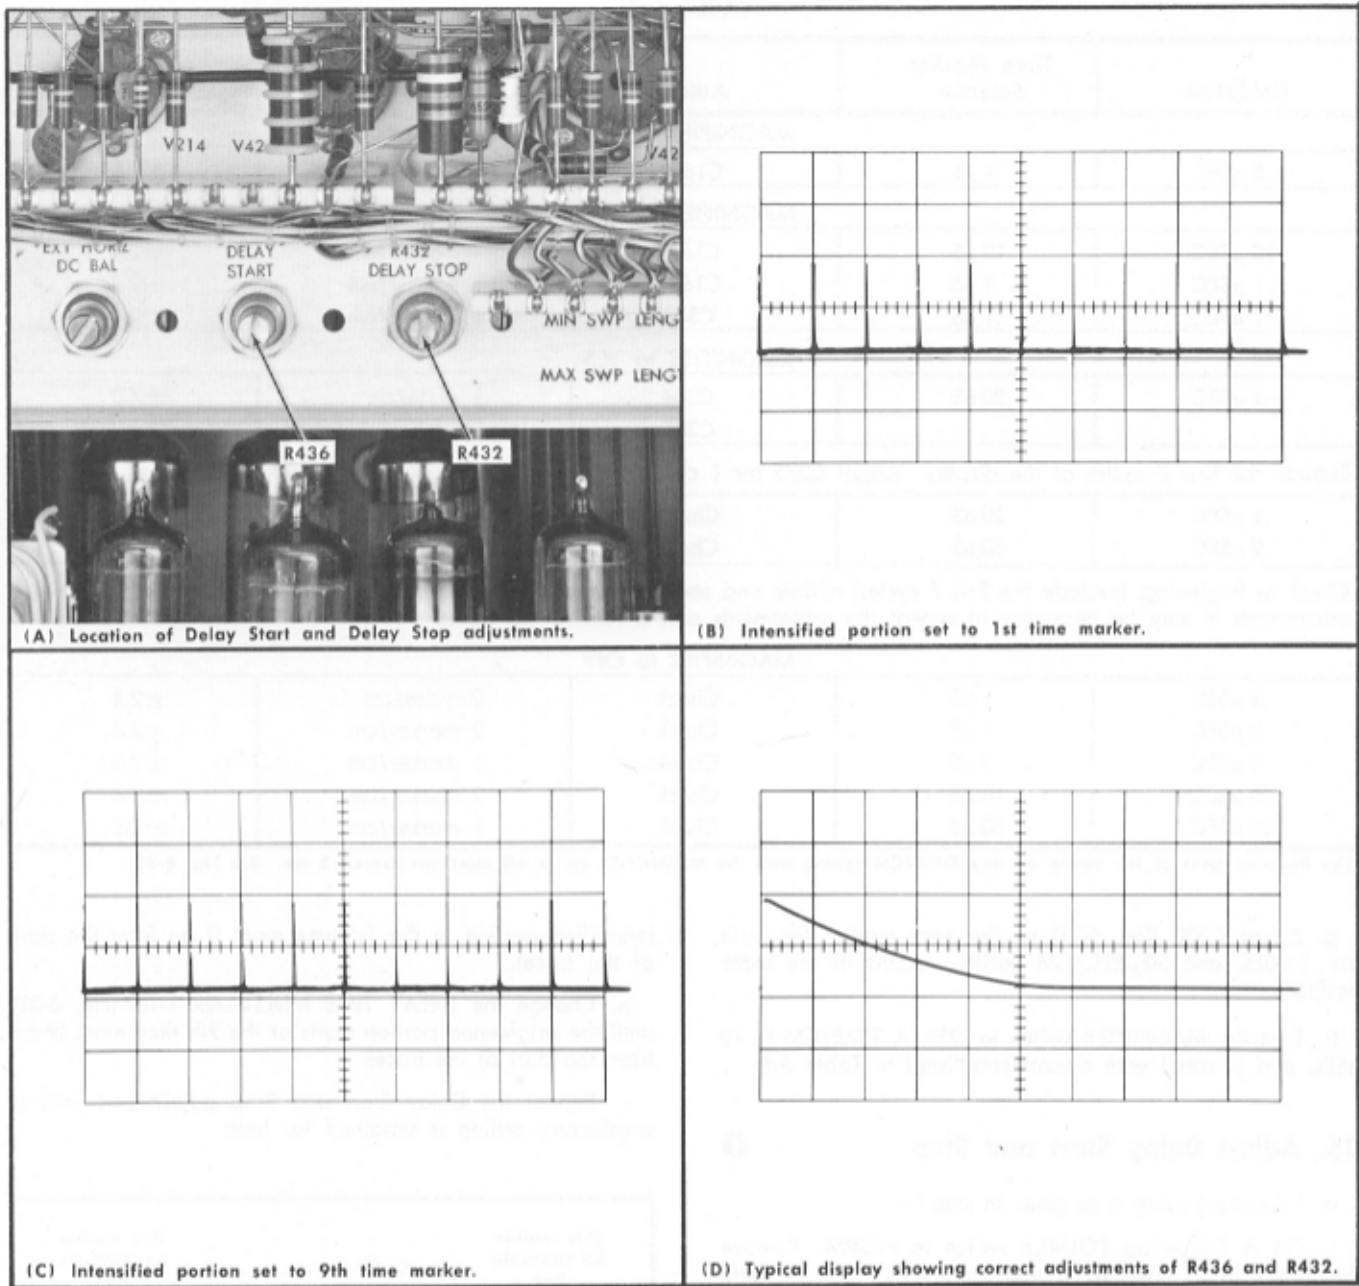

Fig. 6-33. Delay Start and Stop adjustment.
g. With the DELAY TIME MULTIPLIER 1-10 dial set at 1.00, adjust the Delay Start R436, (Fig. 6-33) to position the
h. Change the DELAY TIME MULTIPLIER 1-10, (Fig. 6-33) until the brightened portion starts at the 9th time mark (9 cm from the start of the trace).